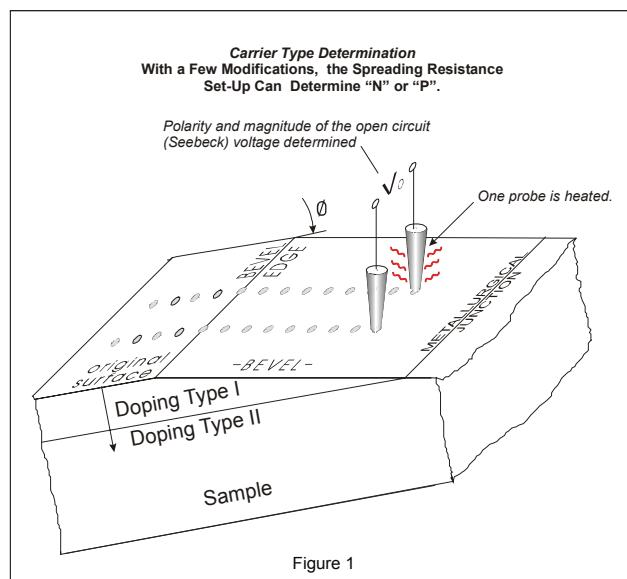

Figure 1
- The most commonly used method is the hot probe. We have equipped our instruments with auxiliary circuitry which allows us to switch to a mode where one of the two probe tips is heated several degrees centigrade above ambient – hence “hot-probe” (Figure 1). We then run a second profile on the sample where we measure the open circuit voltage rather than the resistance between the probes. The polarity of the voltage, determined by the Seebeck Effect, tells us the conductivity type. The method is reliable, except on very thin layers – particularly when they are sandwiched between high concentration regions such as emitters and